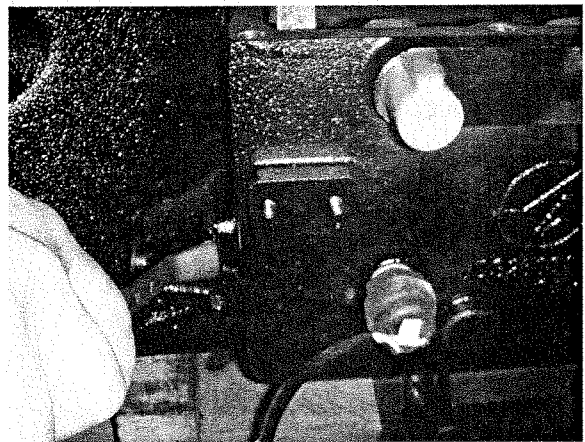

Fig 2-13
Figs 2-13~2-20 explain some methods for replacement of transmission gear-shift poking fork, with individual parts for driving device taken as examples in graphic representations, and the replacement method for disassembly and assembly on forklift truck is basically the same as them.
(1) Firstly detach the bolts for mounting shaft arm on the rear end of gear shift lever on the side face. (Fig 2-13)